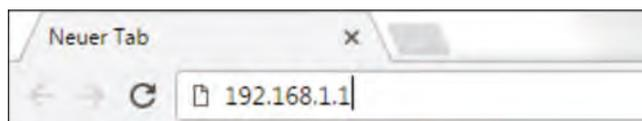
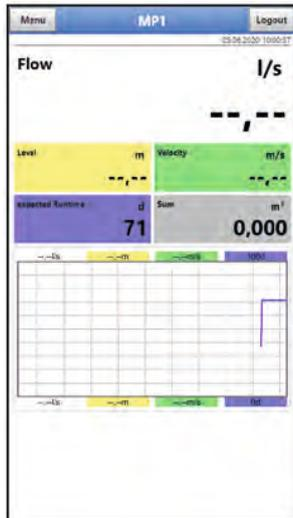

Fig. 31-23 Address field
Fig. 31-24 NFM display in browser
6. Type "192.168.1.1" into the IP address field (Fig. 31-23) and open. The NivuFlow Mobile display (Fig. 31-24) is indicated as soon as the connection has been established successfully.